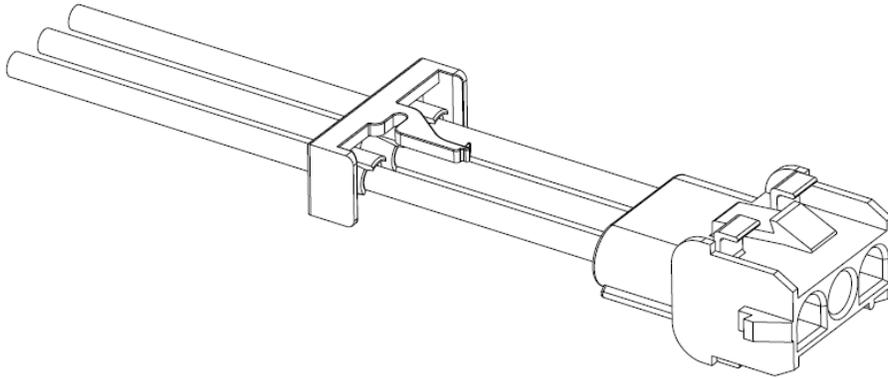

Figure 4
3. Align the TPA accessory with the back end (wire side) of the cap housing. See Figure 4.